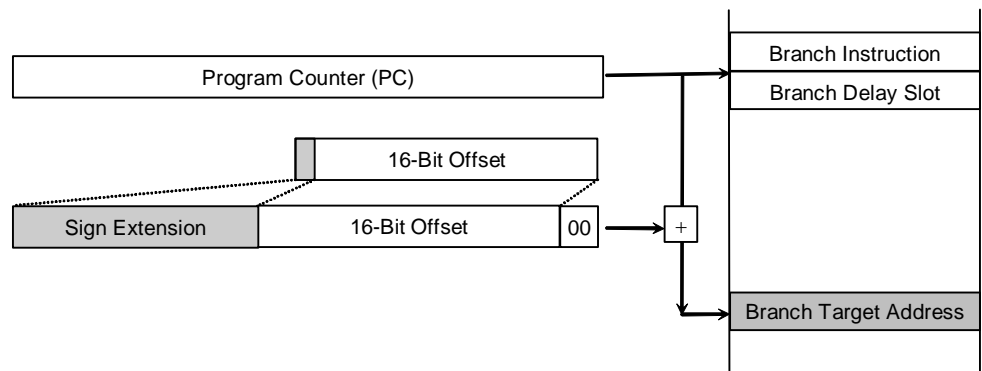

Figure 3-8 PC-Relative with Offset Addressing (32-Bit ISA Mode)
All the branch and branch-likely instructions transfer program control to a target address using a PC-relative address. They generate the next instruction address by sign-extending and appending b'00 to the 16-bit immediate displacement (offset) operand, and adding the resultant value to the contents of the program counter (PC). Figure 3-8 shows how the branch target address is generated. The target address for a branch is computed from the address of the instruction immediately following the branch instruction, i.e., the address of the branch delay slot.